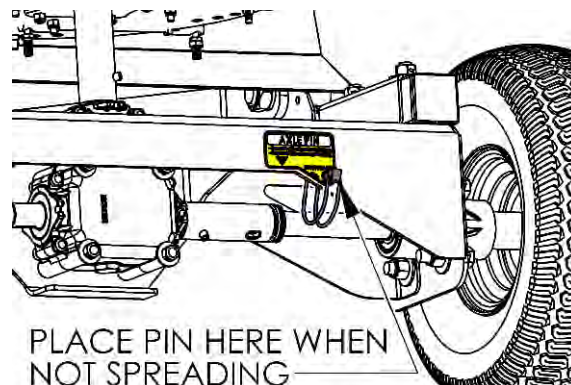

FIGURE 13.2
- When transporting the Spreader remove the Axle Pin and place it in the Pin Storage Hole indicated by the "AXLE PIN" Decal. Only have pin placed in the axle when actively Spreading. **See FIGURE 13.2**